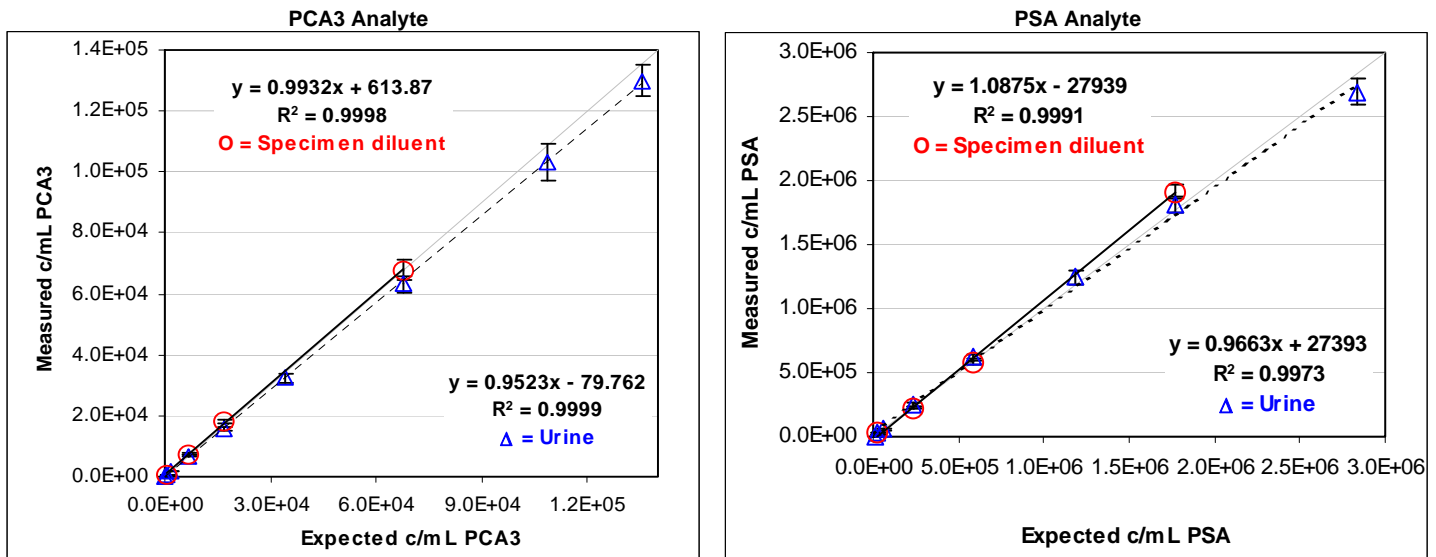

Figure 4. PROGENSA PCA3 Assay Linearity for PCA3 and PSA Analytes
The linear range of the PROGENSA PCA3 Assay was determined according to CLSI EP6-A (2003) (8) based on linear regression analysis (least squares). Two sets of dilution series were prepared from specimens containing high concentrations of PCA3 and PSA mRNA. One set was diluted into processed female urine and one set was diluted into specimen diluent. Dilutions spanned the entire assay range between the lowest and highest positive calibrators for each analyte. For both PCA3 and PSA analytes, assay-measured results showed a direct proportional relationship between the dilutions tested and the analyte c/mL reported. There was no significant diluent matrix effect. See Figure 4.